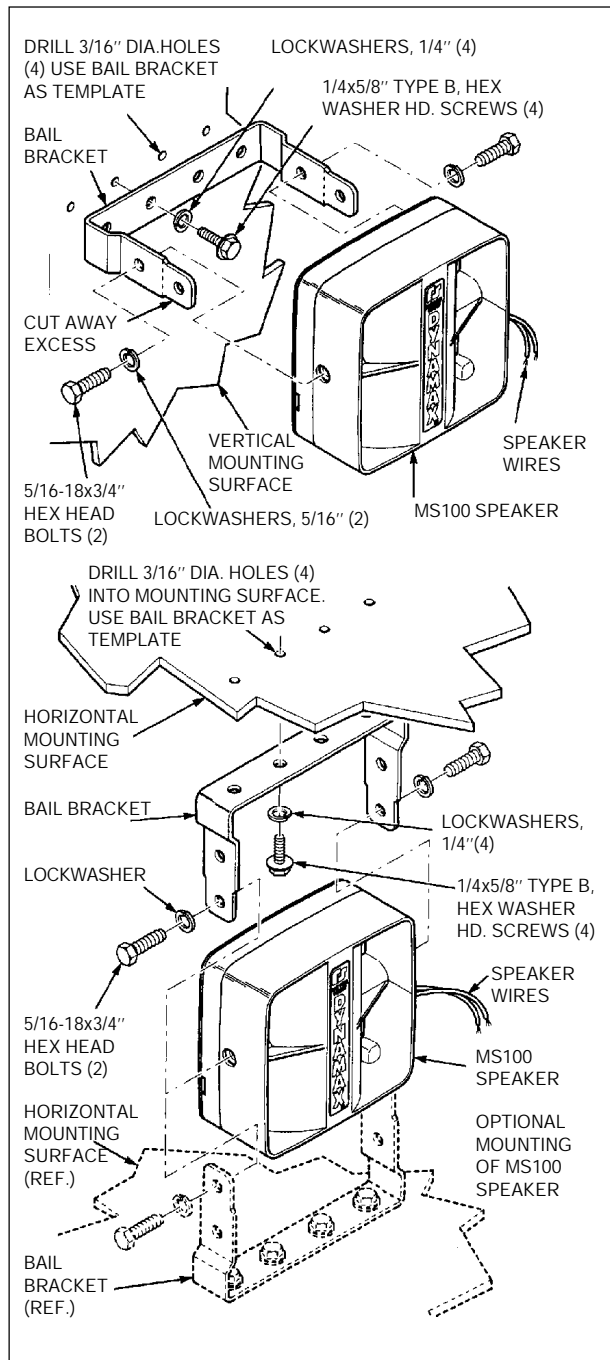

Figure 1.
b. Attach the supplied bracket to the speaker using the 5/16-18x3/4" bolts and split lockwashers as shown in figure 1. Do not tighten the bolts at this time.
e. Secure the bracket, or assembled unit, unit to the mounting surface using the 1/4"x5/8" type B screws and 1/4" lockwashers as shown in figure 1. Position the front of the speaker perpendicular to a horizontal mounting surface or parallel to a vertical mounting surface, and secure the speaker to the bracket with the 5/16-18x3/4" bolts.